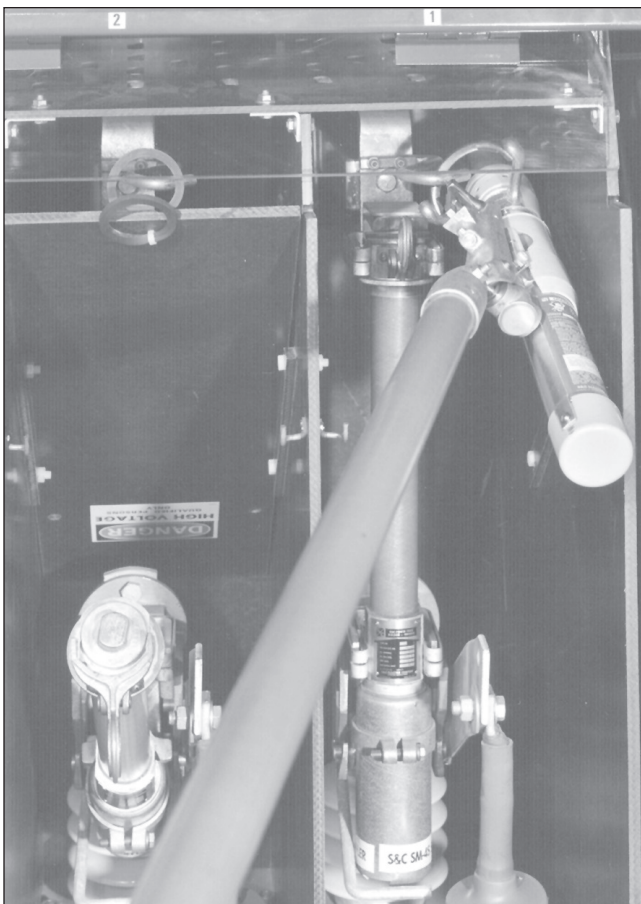

Figure 9. Loadbuster anchor connected to attachment hook.
**Step 1** Reach across in front of the fuse unit or holder with Loadbuster and hook the anchor, located at top of Loadbuster, over the attachment hook on the far side of the fuse unit or holder. See Figure 9. Note that only one attachment hook is provided.